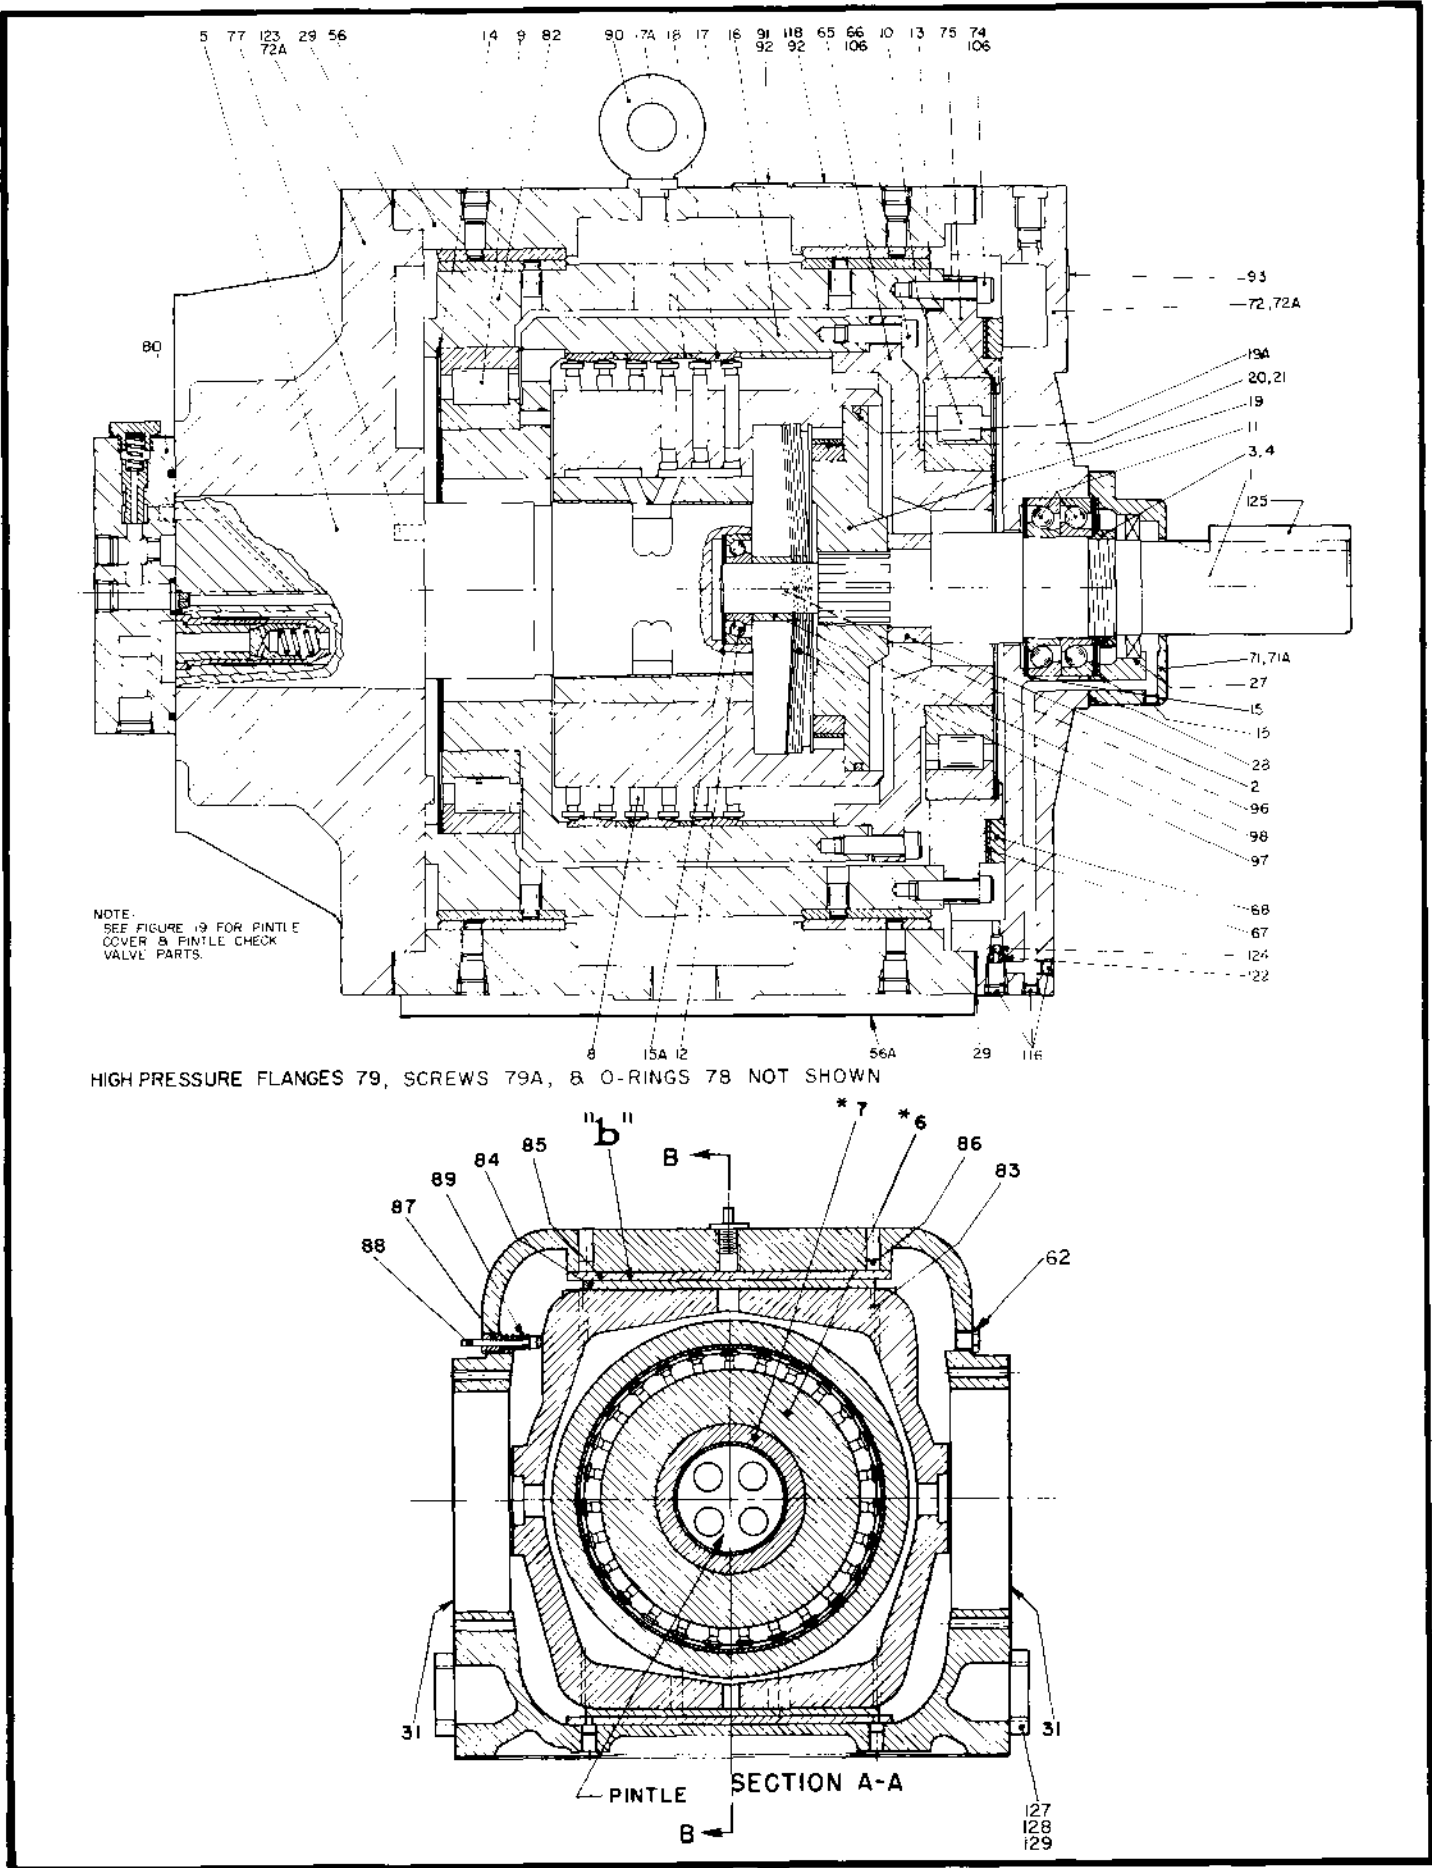

Figure 13. Type DN Pump. (508644)
See Figure 13. Inspect shaft seal (27) for cracks, cuts, hardening or deterioration. If a replacement is needed, tap seal from shaft seal gland (71) and press new seal into cover until it bottoms out against shoulder. The seal must be installed squarely into gland, otherwise leakage will result.
See Figure 13. Clean all parts thoroughly, removing dirt, chips and foreign matter. Inspect all bearings for pitting or seizing. Inspect pistons and their bores for cracks, scratches or indications of wear. Inspect working surfaces of pintle, cylinder bushing and thrust rings. Inspect slideblock and case liners for grooves and cracks. A mark is scribed in the bushing and cylinder. If the bushing has turned inside the cylinder, the marks would not line up. When marks don't line up, the entire cylinder, bushing and pintle assembly must be replaced. Inspect pintle orifice and clean with compressed air. Do not insert any tool into the orifice which could accidentally change the size of the orifice.
See Figure 13. Gasket (29) must be positioned properly to prevent blocking lubrication hole at top of case, near center. Assemble rear case (123) to middle case (56) with gasket (20) in correct position. Use screws (72A) to secure rear cover to middle case. NOTE: THIS IS A PRESS FIT.